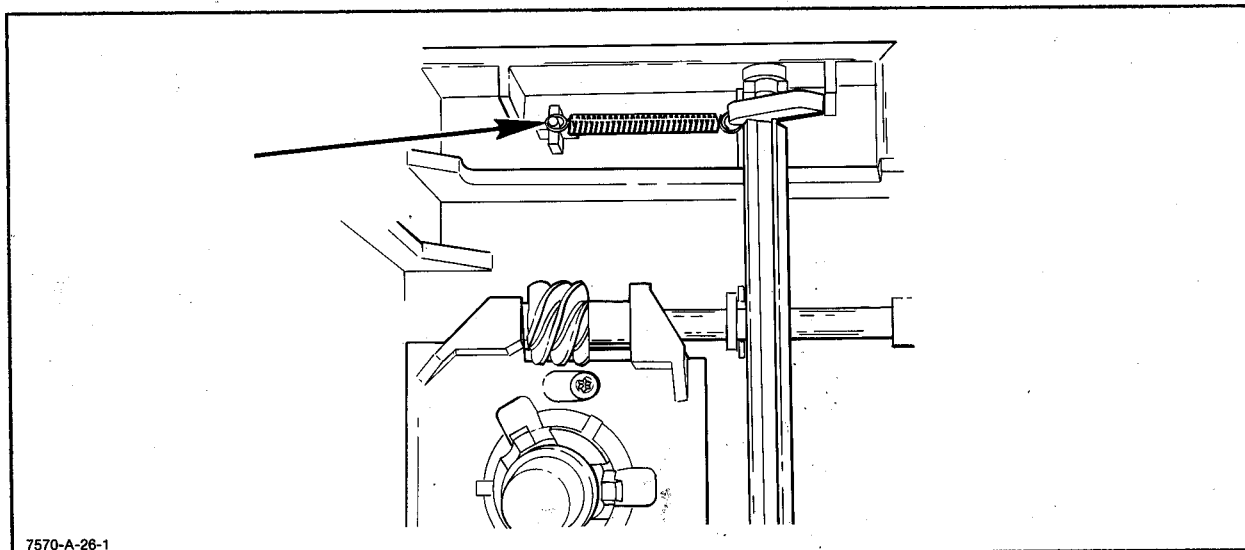

Figure 6-22. Gear Engaging lever
- d. Remove the engaging lever spring. See Figure 6-22.